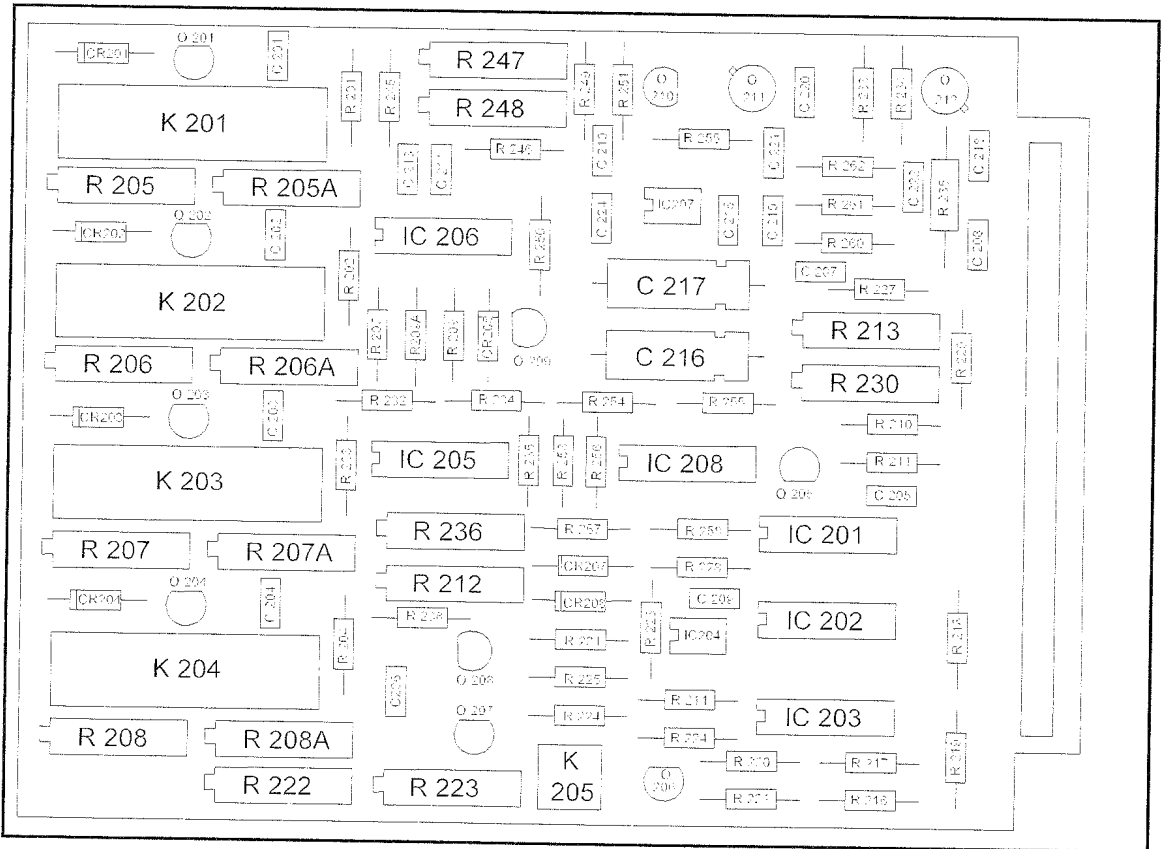

Figure 6 Signal Generator Board 885058 component side
7.3.2 Adjust Minimum Frequency for each band. Turn the FREQUENCY KILOHERTZ knob to minimum (counterclockwise). There is only one trimpot which adjusts the start frequency for all four bands simultaneously, trimpot R236 shown in Figure 6. The two frequency bands to worry about are the middle two, 0.2-2KHZ and 2-20KHZ. Adjust R236 so that one of the start frequencies meets the value in the Start Frequency Adjustment table while the other frequency band's start frequency must be less than the target. For example, the 0.2-2KHZ start frequency can be adjusted to 191 Hz at 70° F while the 2-20KHZ start frequency must be left at 1.89 KHZ. Choose the start frequency to adjust to based on the estimated temperature of the 8850-2 Signal Generator Board. For a room temperature of 70° F, the 8850-2 will warm up to about 100° F in 37 minutes with the lid on.
With the OUTPUT LEVEL knob turned to minimum and the FREQUENCY KILOHERTZ knob set to 1 KHz, adjust the amplitude to barely below the R.M.S. VOLTS OUT display's minimum resolution of .01, so that it reads .00. This is adjusted with trimpot R230 shown in Figure 6. An alternative method is to turn the OUTPUT LEVEL knob ½ turn above minimum and adjust the amplitude to 1 volt with trimpot R230.